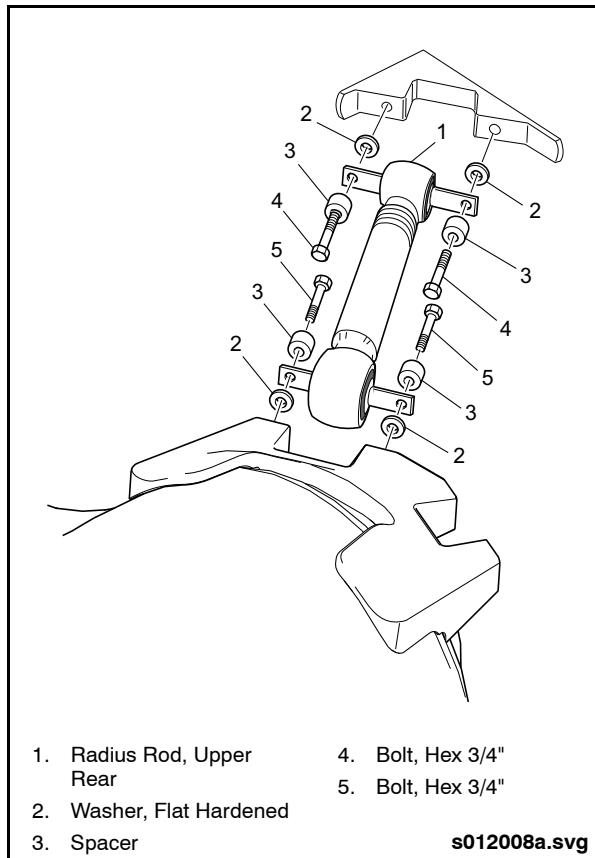
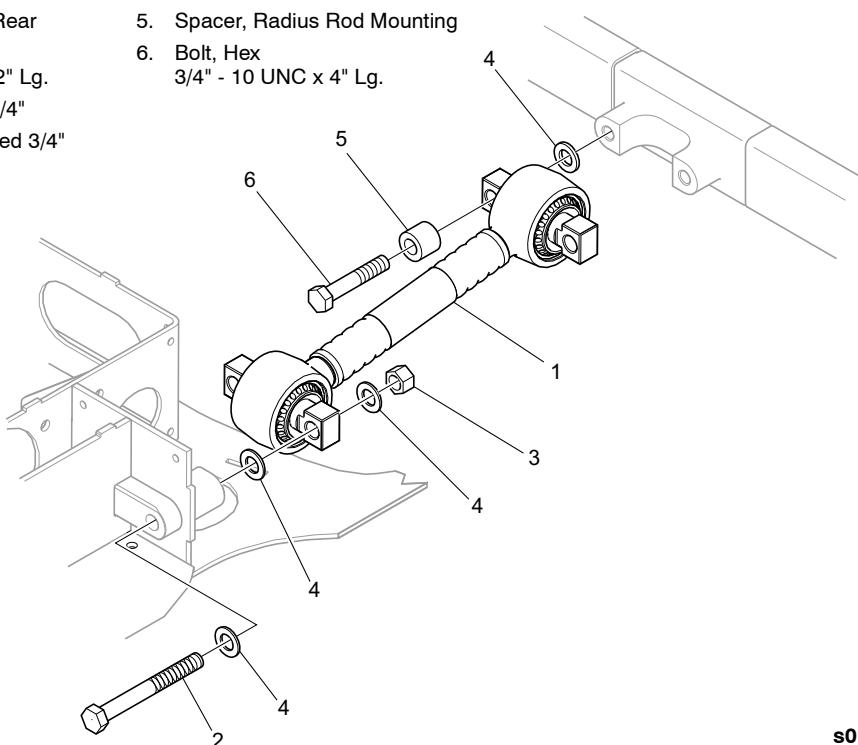

Fig. 2-104: Upper Radius Rod Removal & Installation
Fig. 2-105: Lower Radius Rod Removal & Installation
2. Remove the radius rod mounting bolts while taking note of the spacer and washer locations and quantity. See "Fig. 2-104: Upper Radius Rod Removal & Installation" on page 83. See "Fig. 2-105: Lower Radius Rod Removal & Installation" on page 84.